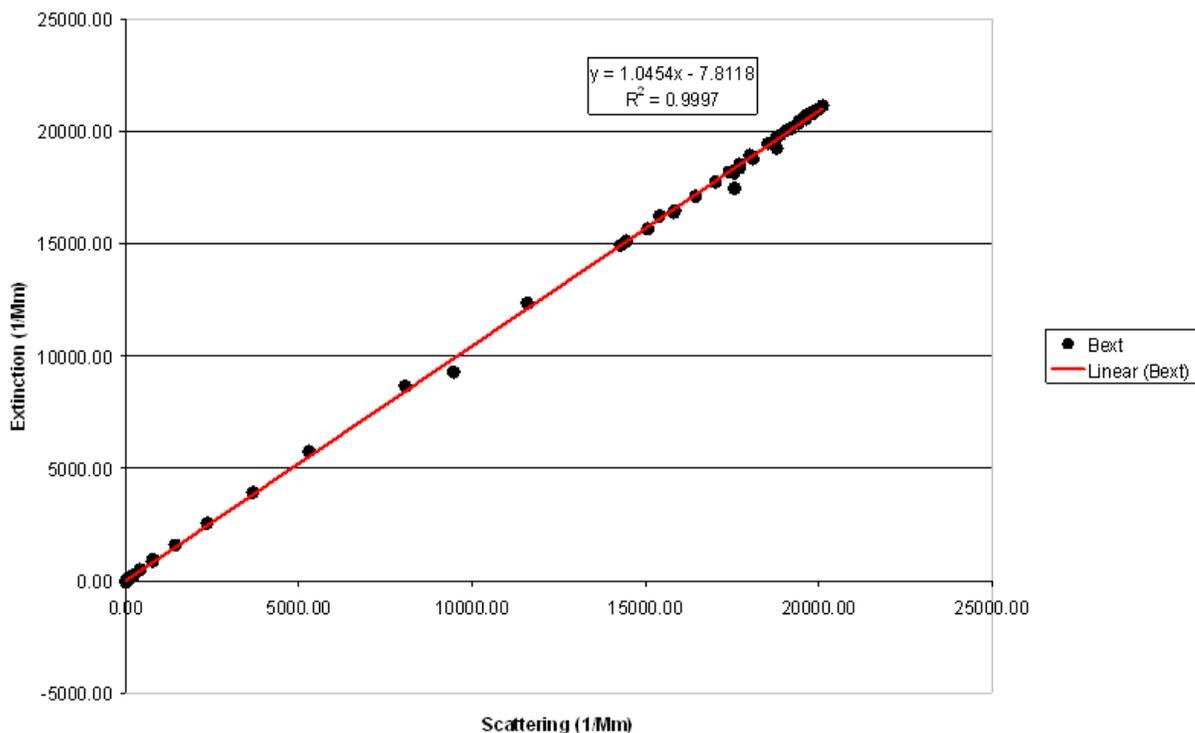

Figure 7: Regression Plot of Calculated Extinction Measurement against B_{scat} . This regression needs to be repeated for each wavelength.
3. Plot the calculated extinction from the equation in step 2 against the measured scattering as shown in Figure 7. Prepare a linear regression with calculated extinction as the y value and measured scattering as the x value.